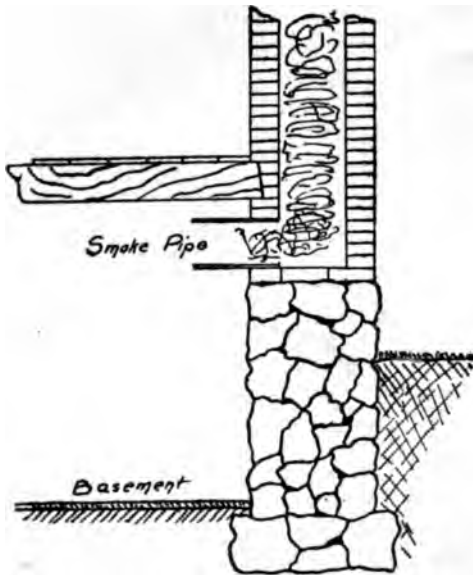
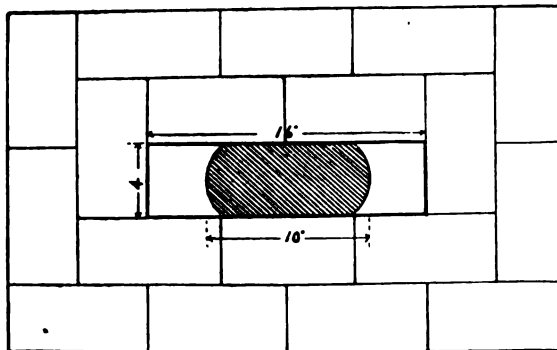

Fig. 3.—Smoke Ascends a Flue Spirally.
Fig. 4.—Effective Area of Long, Narrow Flue.
A. The smoke ascends a chimney spirally (Fig. 3); therefore there is no circulation in the corners of a square flue nor in the ends of a long narrow flue (Fig. 4).